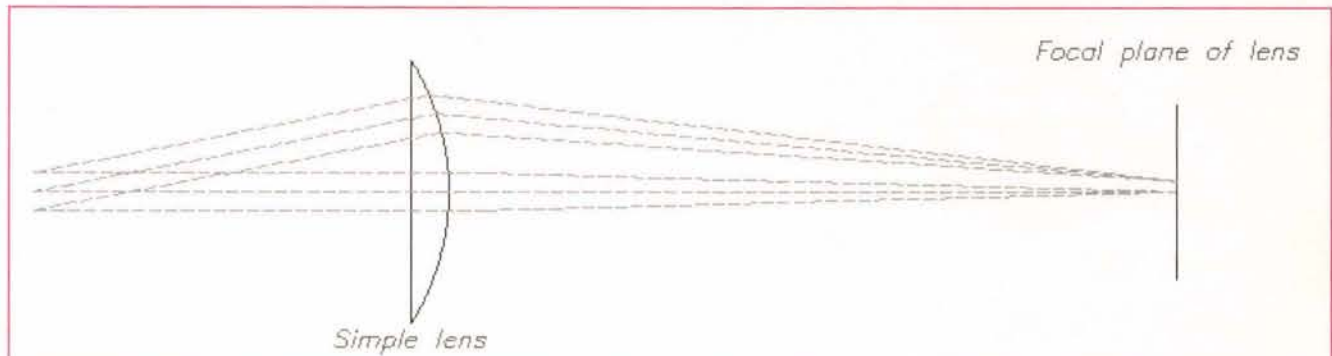

Figure 9-3 This illustrates how a simple lens tries to restore an off-axis laser beam to the same focal point.
(2) As the laser beam moved across the lens away from the optical axis, the focusing characteristics of the lens would try to bring the focused spot back to the focal point of the lens, as indicated in Figure 9-3. In the case of light rays parallel to the optical axis, all rays would converge to the focal point of the lens. However, because the beam enters the lens at an angle rather than parallel with the optical axis, there would be a shifting of the focal point. This lens would not work for marking anything larger than a pin head.